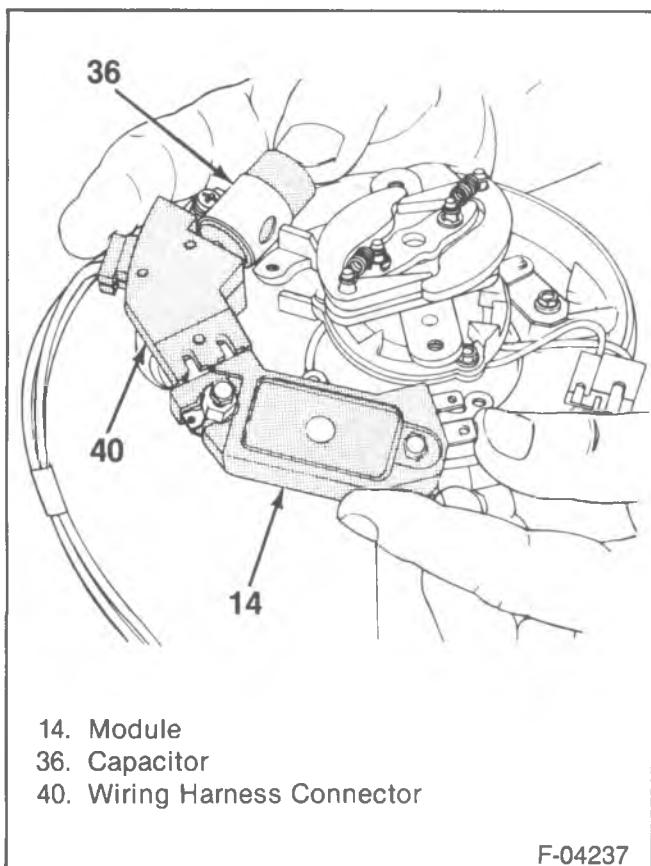

Figure 50—Removing the Module
19. Capacitor (36), wiring harness connector (40) and module (14) from the housing (figure 50).